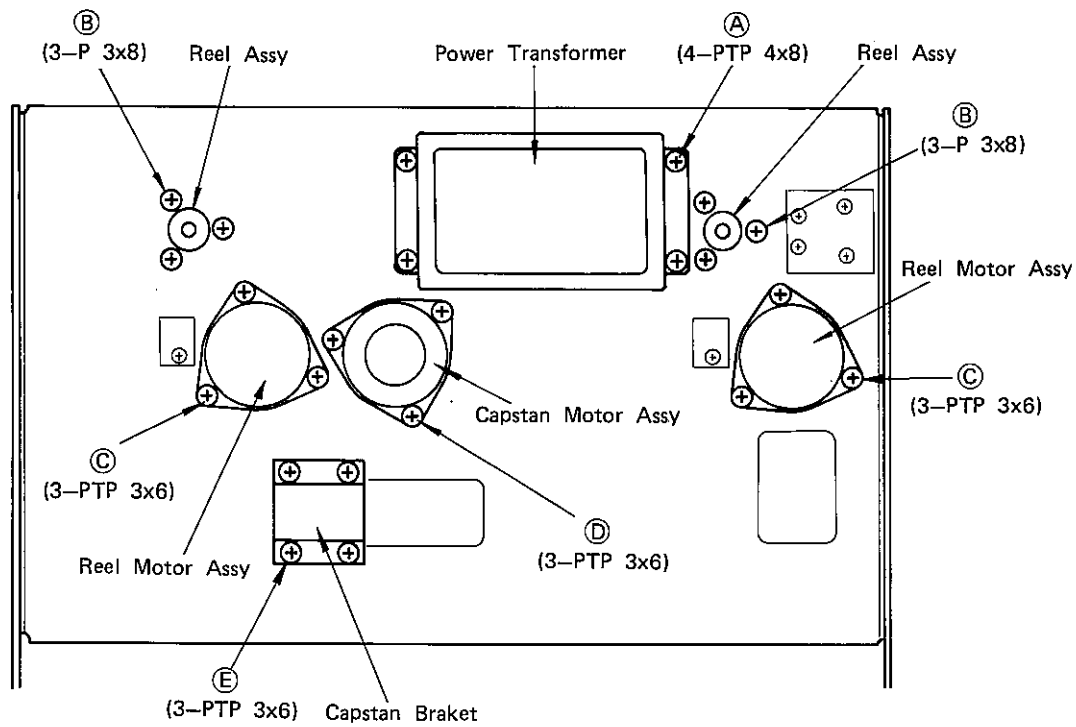

Fig. 6-7
10) Power transformer (Fig. 6-7)
- \* Remove the four (A) screws.
11) Reel assembly (Fig. 6-7)
- \* Remove the three screws (B) and the reel assembly can be taken out from the front side of the recorder.
12) Reel motor assembly (Fig. 6-7)
- \* Remove the three screws (C) and the reel motor assembly can be taken out.
13) Capstan motor assembly (Fig. 6-7)
- \* Remove the three (D) screws and the capstan motor assembly can be taken out.
- \* Remove the four (E) screws, shown in Fig. 6-7, and after removing the capstan shaft thrust bracket, replace the belt through the cutout on the right side of the bracket.